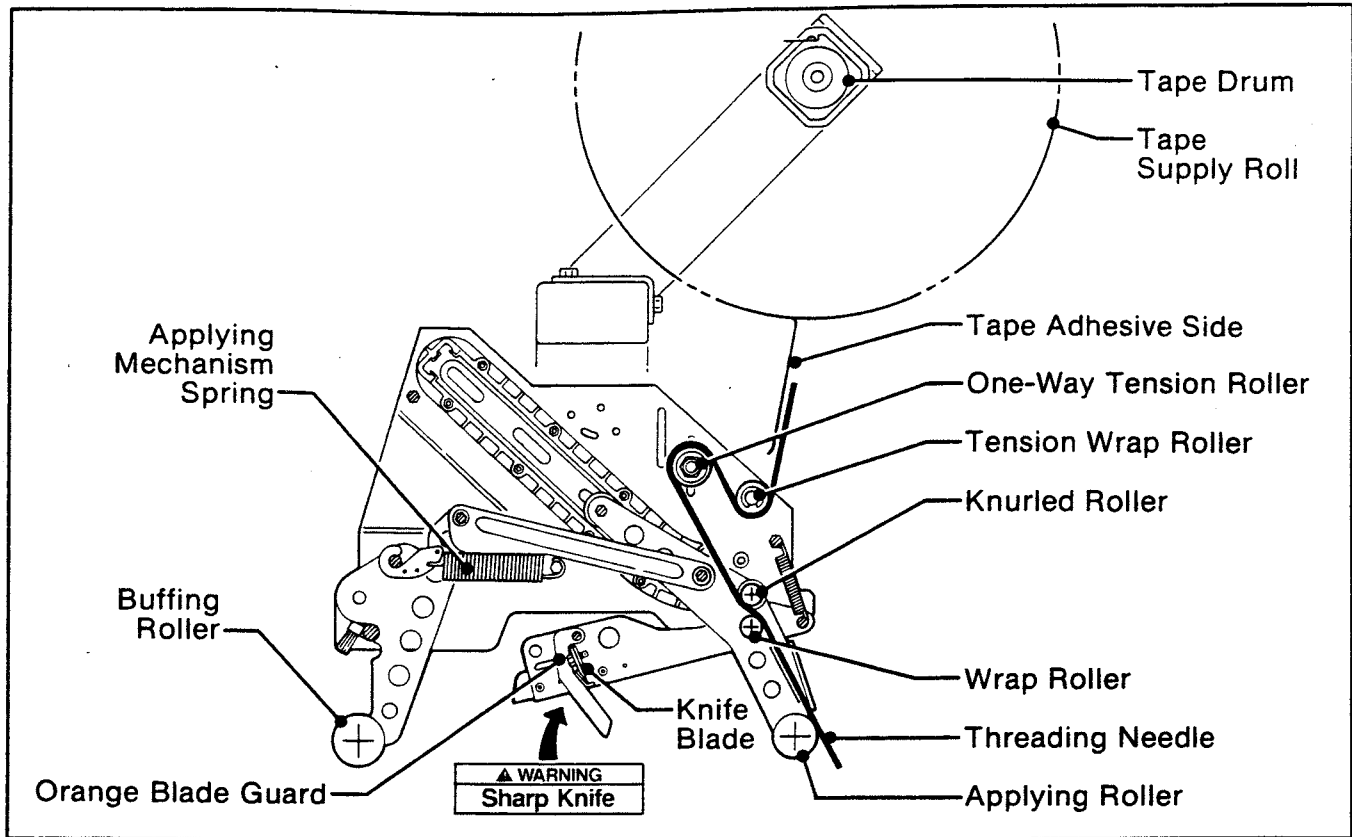

Figure 2-4 - Tape Threading Diagram - Upper Taping Head - Left Side View
1. BOTH THE UPPER AND LOWER TAPING HEADS UTILIZE EXTREMELY SHARP KNIFE BLADES. THESE BLADES ARE LOCATED UNDER THE ORANGE BLADE GUARD WHICH HAS THE "WARNING - SHARP KNIFE" LABEL. BEFORE WORKING WITH THE TAPING HEADS OR ATTEMPTING TO LOAD THE TAPE, REFER TO FIGURES 2-4 AND 2-5 AND IDENTIFY THE BLADE LOCATION. KEEP HANDS OUT OF THESE AREAS EXCEPT AS NECESSARY TO SERVICE THE TAPING HEADS.
The applying mechanism spring, shown in figures 2-4 and 2-5, controls applying and buffing roller pressure on the box and returns the mechanism to the reset position. The spring pressure is setting, as shown in figure 3-3A, is for normal operation but is adjustable.